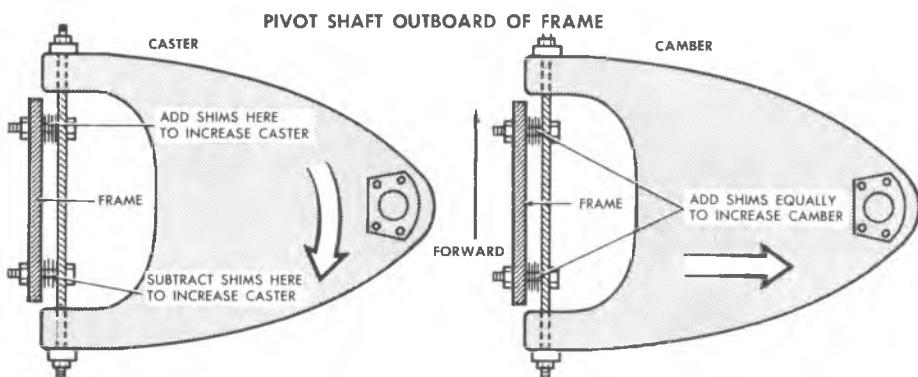

Fig. 21—Caster - Camber Adjustment
7. Correct the actual caster angle, as arrived at in Step 4, as necessary to keep within the specifications by adding or subtracting shims from the front or rear bolt on the upper control arm shaft (fig. 21).